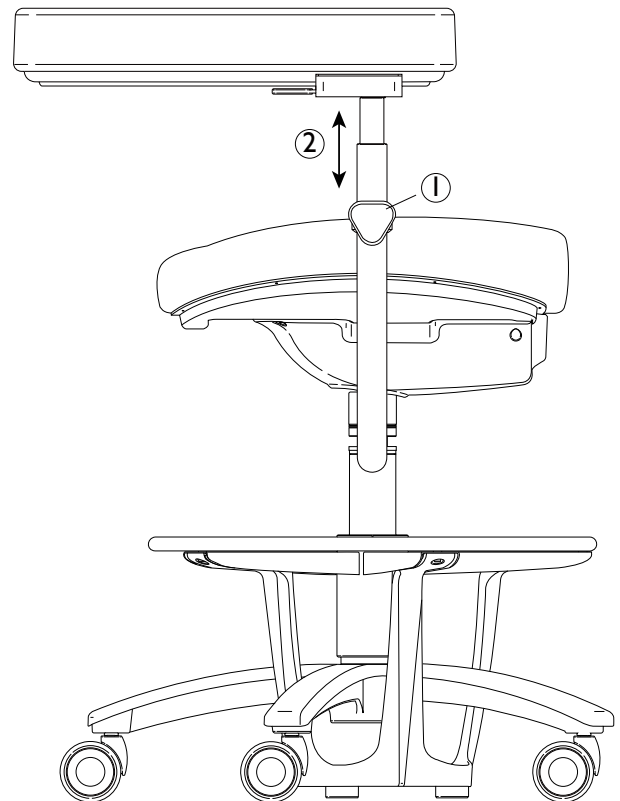

Figure 8: Adjusting Height of Torso Band
1. Loosen the Knob (Figure 8, item 1) on the Torso Band Support Pole a few turns.
2. Set the Band at the desired height (item 2) and tighten the Knob securely.